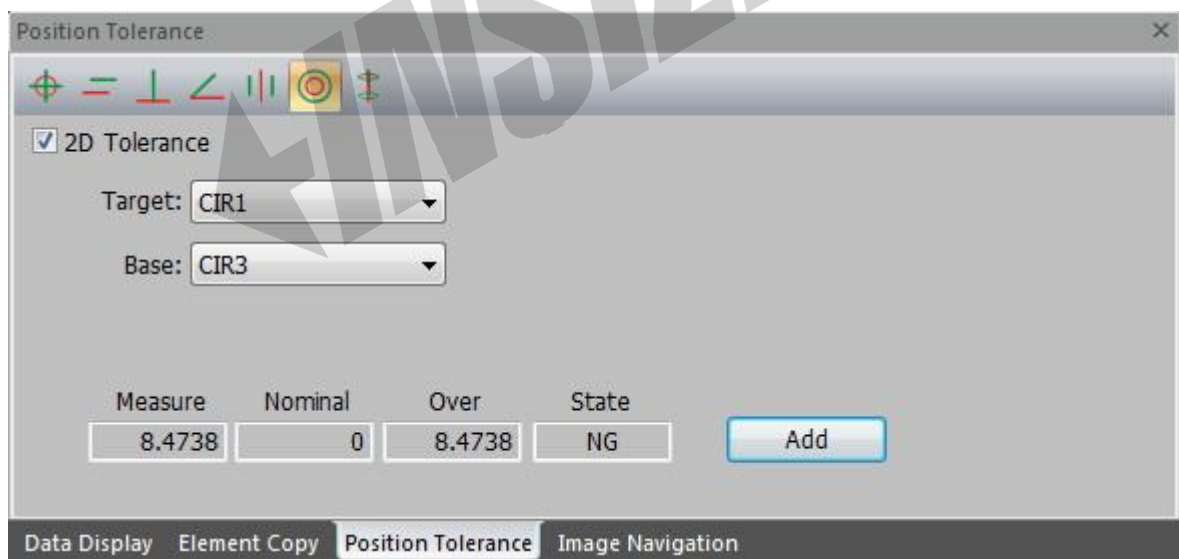

Fig. 18-5
3. Tick two dimension element in Fig. 18-5, click pull-down list to select tolerance element and basic element, the software will calculate concentricity (measuring value) of the circle, calculate exceeding tolerance value and judge whether the status is OK or NG.